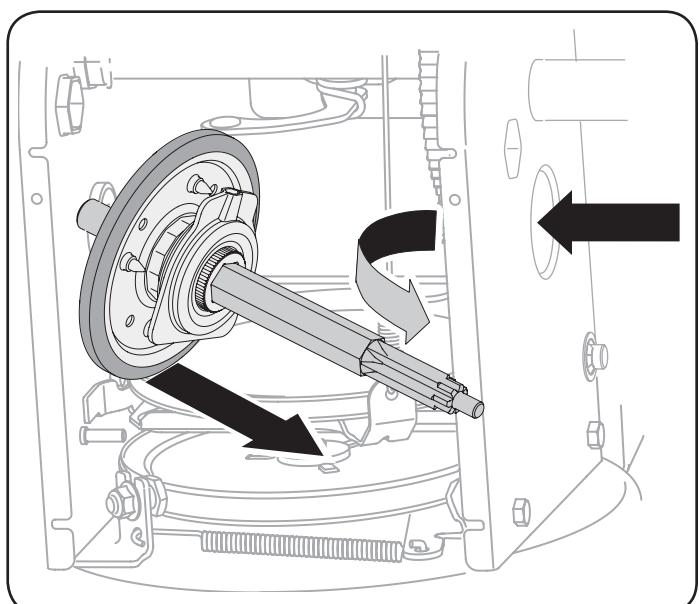

Figure 31
- Carefully position the hex shaft downward and to the left before carefully sliding the friction wheel assembly off the shaft. See Figure 31.